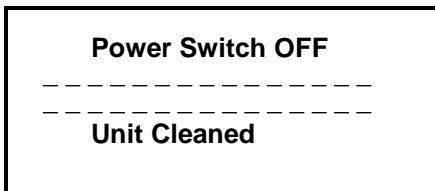

Figure 93
6. After 60 seconds or selecting a key to abort the Safety Timeout the POWER SWITCH OFF message will appear on the screen. (See Figure 93.)